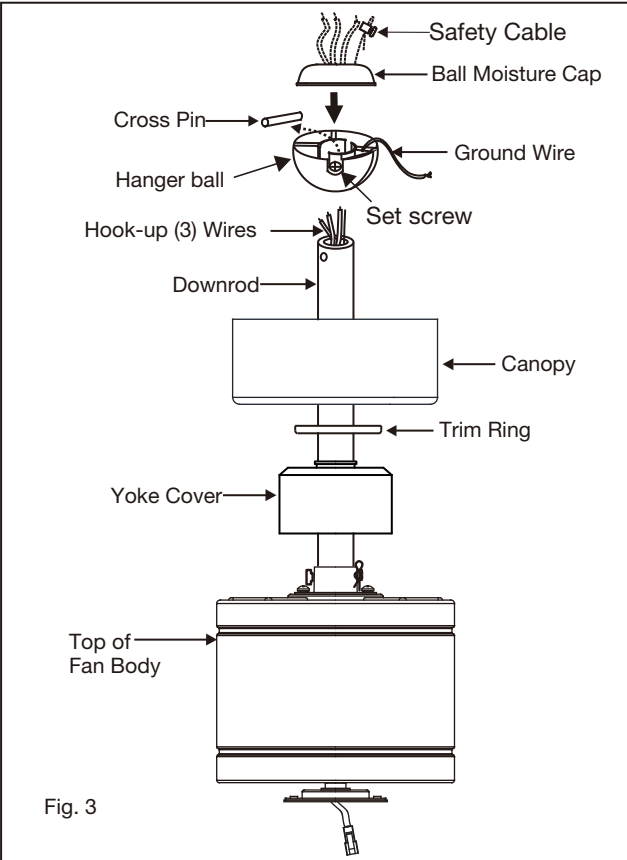

Fig. 3
- 6 Slip the yoke cover, trim ring and canopy onto the downrod. (Fig. 3)
- 8 Feed wires through holes in rubber ball moisture cap and slide cap down over top of ball. (Fig. 3)
- 1 Remove the existing wall plate and old switch from the wall outlet box. (Fig. 3)